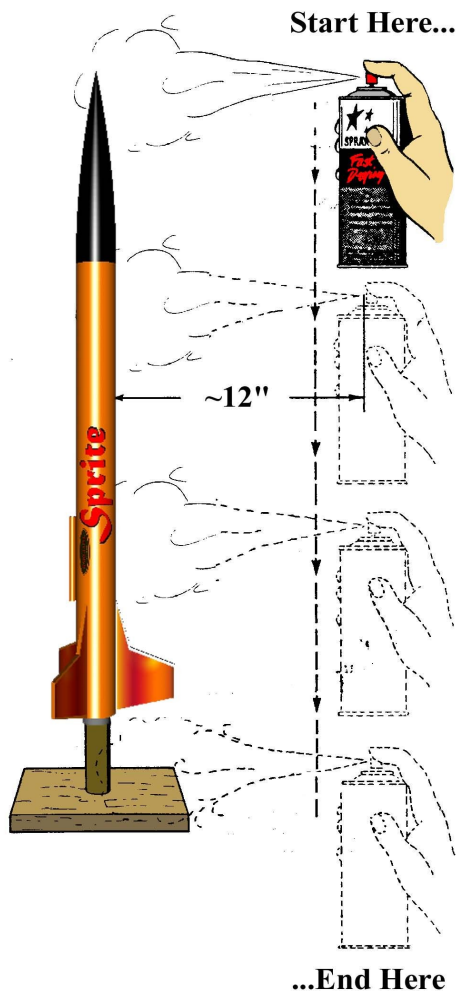

Figure 10
the nose cone. The decals will provide the remaining trim colors. Spray the model in a consistent manner, as shown in Fig. 10 below, always in the same direction, top to bottom. Spray the nose cone separately, but use the same method. Do not use heavy coats, but multiple light coats, building up layers of color. Give these colors at least 48 hours to cure.
- **Step 25** After the final color coat has dried for several days, spray a clear gloss acrylic coat over the entire model in the same manner as shown in Fig. 10. Give this a day to fully cure, then apply the decals shown at the front of these instructions. When the decals have dried completely, give the model another coat of the acrylic clearcoat to seal the decals and protect them from flight hazards.